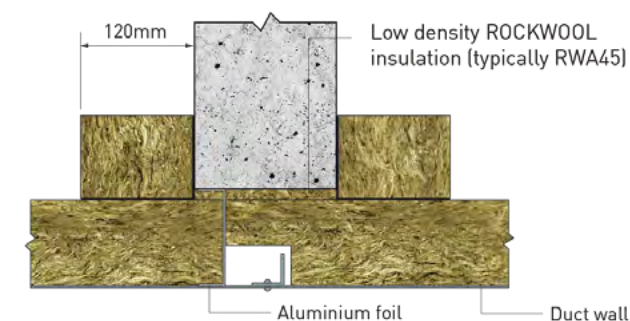

Figure 8
- A 30 x 30 x 2mm mild steel angle frame fixed to the duct at the penetration mid-point. Steel rivets should be used at 300mm maximum centres (Figure 8),